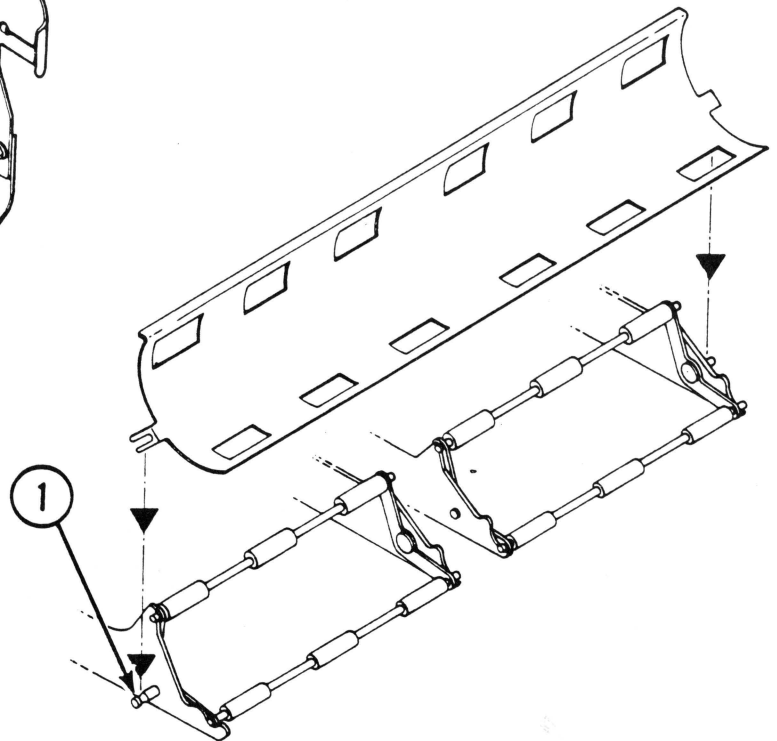

FIGURE 20
8. Lift the platen cradle back onto its retaining pins. (See Figure 20, #1.)